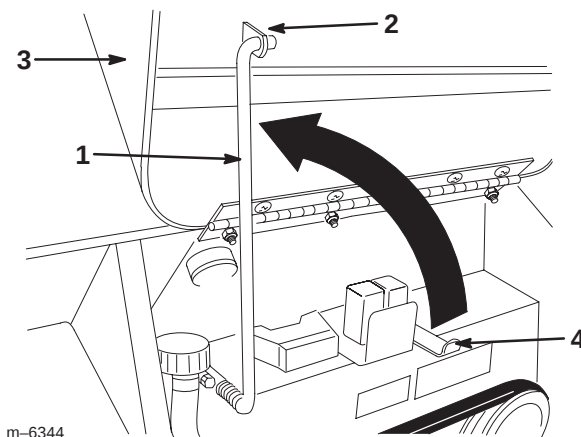

Figure 19
3. Swing the prop rod up and secure it in the bracket on the hood (Fig. 19).
1. Pull the prop rod out of the bracket on the hood and lower it into its holder (Fig. 19).